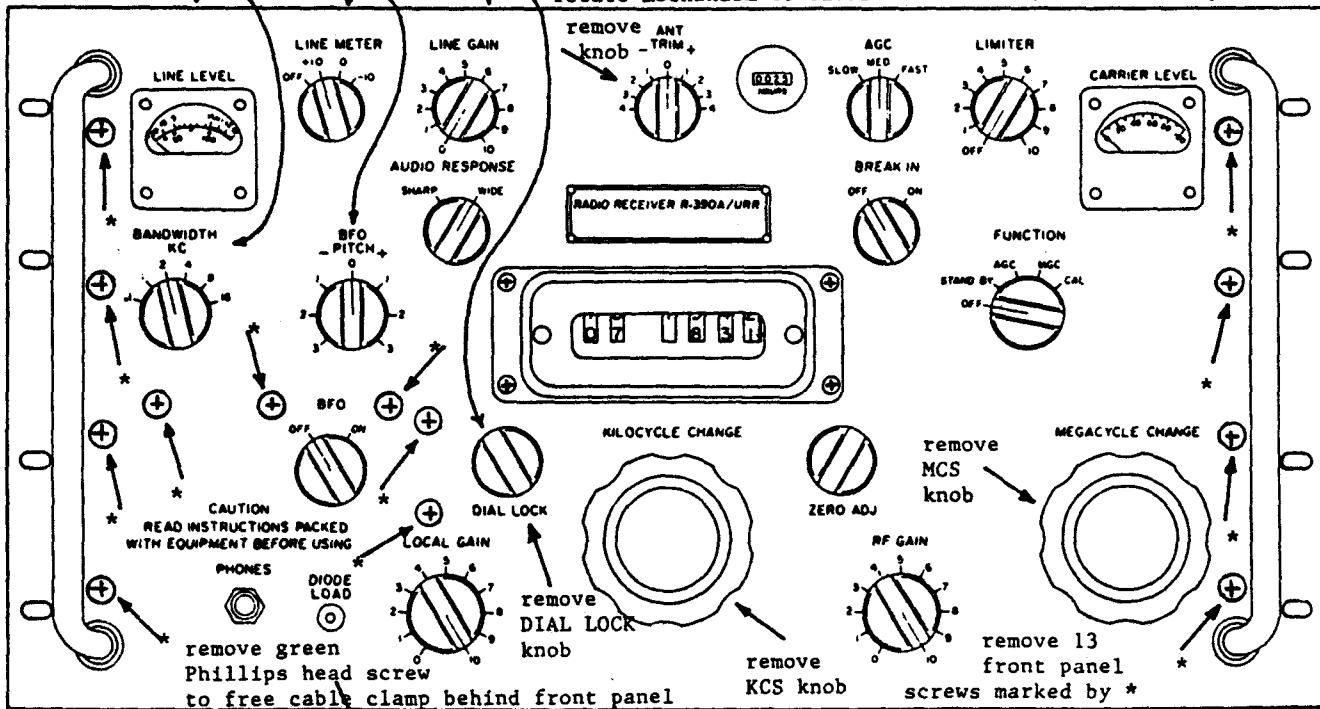

FIG. 1 Front Panel Removal
To determine if the Veeder Root counter (the MCS/KCS counter; see Fig. 1) is aligned (1) turn the ZERO ADJ knob clockwise until the clutch is disengaged, i.e., until the digit wheel of the Veeder Root counter does not move when the KCS knob is turned through its zero adjust range (about 14 KHz), (2) set the KCS knob at about the center of its zero adjust range, and (3) turn the ZERO ADJ knob fully counter clockwise to engage the clutch. The KCS knob should be left in the center of its zero adjust range for the remaining checks and alignments. Next, (4) turn the KCS knob throughout its entire range, from one limit of the 10 turn stop to the other. An aligned Veeder Root counter should read about xx-965 and xx+035 at the stop limits. In other words, the 1000 KHz tuning range of an R-390A has about 70 KHz of over range, and the over range should be divided equally between the two ends of the 1000 KHz tuning range.
If all of the cam tips align at the same frequency, and the difference between the cam tips alignment and 07+ stop is about 35 KHz (example: cam tips align at 07+015 and 07+ stop is at 07+050), then loosen the non-mar clamp on the right side bevel gear of the Veeder Root counter, and reset the digit drum of the counter to read 07+035 with the KCS knob at the 07+ stop. The bevel gear can be accessed by removing the counter cover plate which is attached to the front panel by 4 Phillips head screws; see Fig. 1. After tightening the non-mar clamp on the bevel gear, turn the KCS knob through its range to make sure that the bevel gear is not binding and that there is no backlash in the digit drum. If there is binding or backlash, loosen the non-mar clamp, reposition the bevel gear, tighten the clamp, and check for binding or backlash again. Repeat until binding and backlash are eliminated or minimized.
If all of the cam tips do not align at the same frequency, remove the front panel (see Fig. 1), set the KCS knob to the 07+ stop, align the Veeder Root counter to 07+035, set the KCS knob to 07+000, and for each cam loosen the non-mar clamp on the gear in front of the cam, set the cam tip to its alignment line, and tighten the non-mar clamp. It may be necessary to remove the associated rack tension springs when aligning a cam tip.